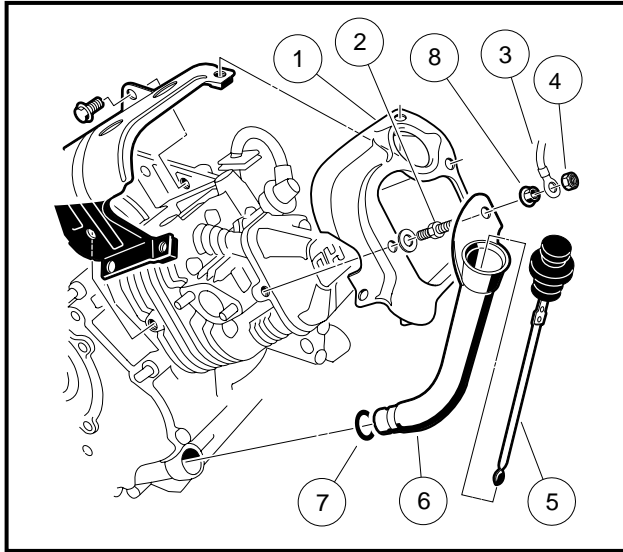

Figure 13-39 Oil Filler Tube and Ground Wire
2. Install lower, upper, and head shrouds (1) along with two-ended bolt (2) (**Figure 13-39, Page 13-22**).
To prevent leaks, apply a light coat of clean engine oil to the O-ring seal (7) before installation. Care should be taken during installation to avoid cutting or nicking the O-ring seal (**Figure 13-39, Page 13-22**).
3. Install oil filler tube (6) and O-ring (7) into the large hole in the crankcase cover. Install the upper end of the oil filler tube (6) onto the two-ended bolt (2). Install flange nut (8) and tighten to 50 in-lb (5.7 N·m). Connect the ground wire (3) to the two-ended bolt and install and tighten the nylon locknut (4) to 50 in-lb (5.6 N·m). Insert the dip stick (5) (**Figure 13-39, Page 13-22**).